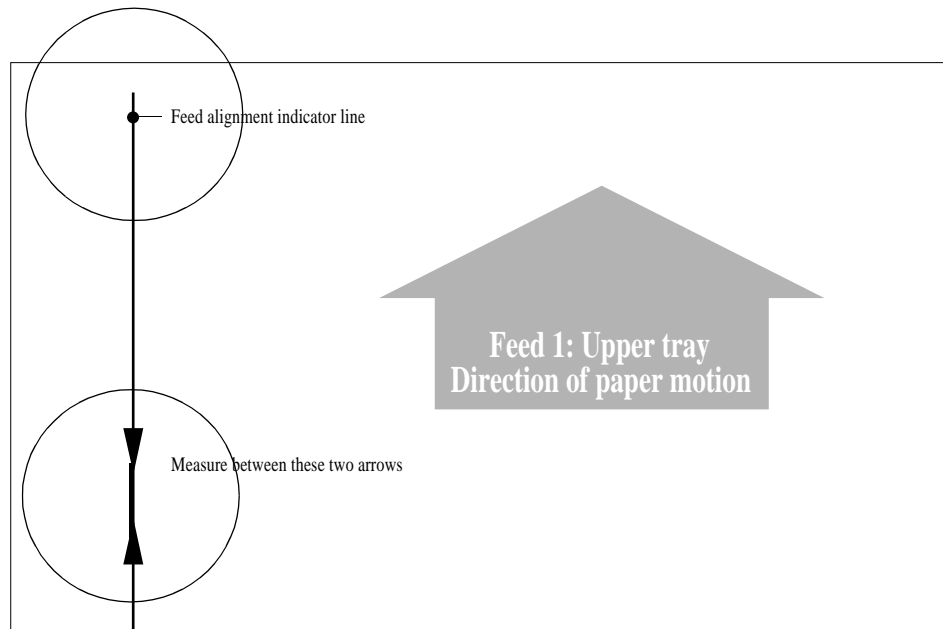

Figure 6-9 Sample Alignment Sheet for Tray1
- a set of alignment sheets, one from each tray (and the HCI if it is installed.) See Figure 6-9.
2. On the alignment sheet for tray 1, shown in Figure 6-9, locate the Feed 1 alignment indicator line.
3. Place the simplex feed alignment ruler sheet adjustment scale between the ends of the arrows (at "measure between these two arrows", shown in Figure 6-9).